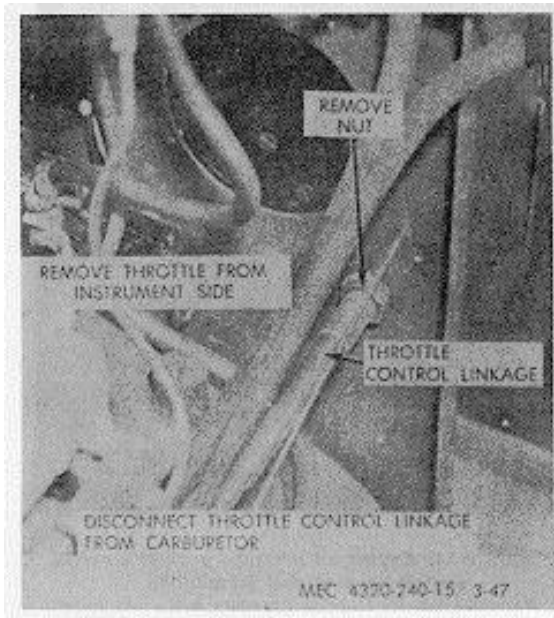

Figure 3-47. Throttle control removal and installation.
a. Removal. Refer to figure 3-47 and remove the throttle control.
b. Installation. Refer to figure 3-47 and install the throttle control.